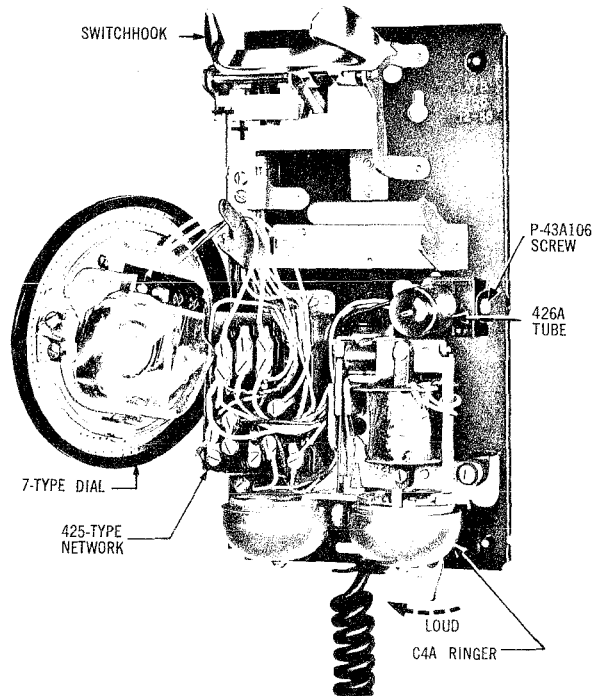

Fig. 24 — Wall Type Telephone
- Wall type telephone mounting is shown in Fig. 24.